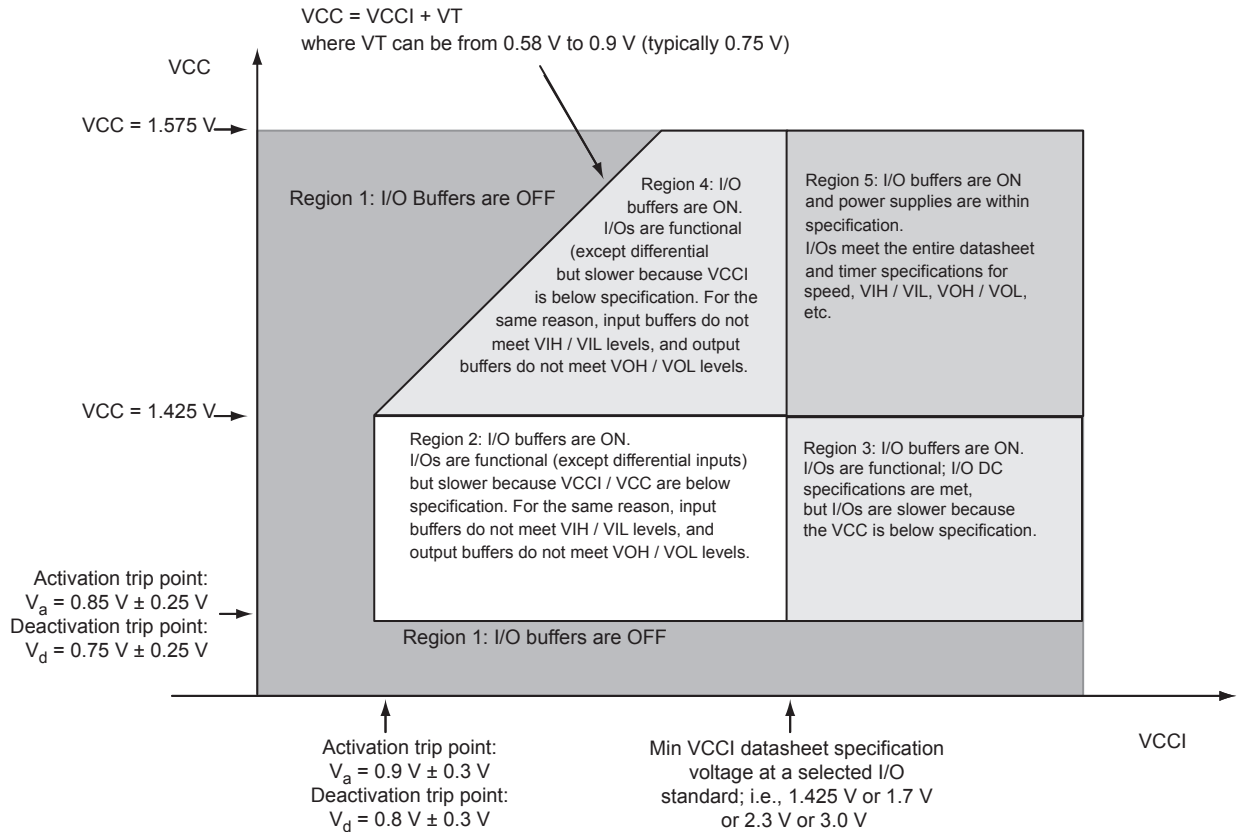

**Figure 2-2 • I/O State as a Function of VCCI and VCC Voltage Levels**
In addition, the I/O will be in a known state through the power-up sequence. The basic principle is shown in Figure 2-2 on page 2-5.
1. VCC and VCCI are above the minimum specified trip points (Figure 2-2 on page 2-5).
Microsemi recommends using monotonic power supplies or voltage regulators to ensure proper power-up behavior. Power ramp-up should be monotonic at least until VCC and VCCPLLX exceed brownout activation levels. The VCC activation level is specified as 1.1 V worst-case (see Figure 2-2 on page 2-5 for more details).